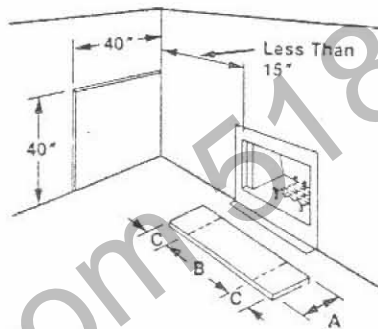

Figure 54
- The hearth extension must extend beyond the front and both sides of the fireplace opening per the dimensions in the chart accompanying (Figure 54). Use either the metal hearth extension (Model HE-33 for HC-3320 or Model HE-36 for HC-3820 and 38B) manufactured by Superior Fireplace Company, or a 1/2" thickness of millboard or a durable non-combustible material with equal or greater insulating value. These materials may be covered by a decorative non-combustible veneer.